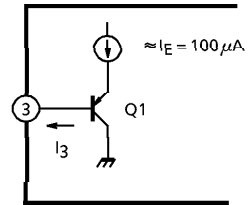

Fig.1
(1) Forward / reverse select switch
① Threshold voltage
Pin③ is coupled to the base of Q1 (PNP-Tr) as shown Fig.1.
③ I₃ (In Fig.1)